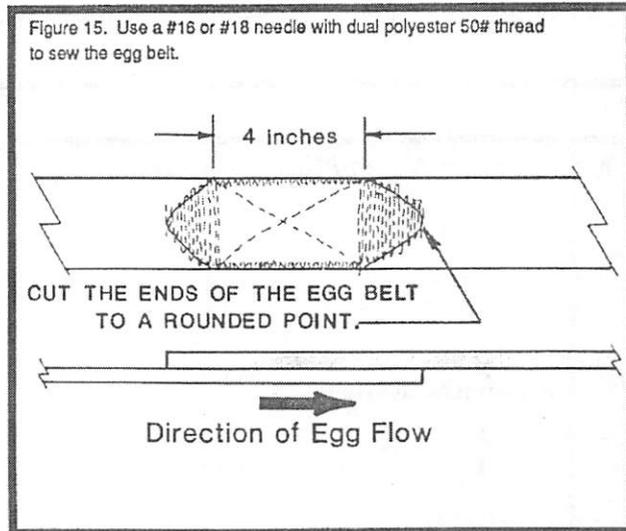

Figure 15. Use a #16 or #18 needle with dual polyester 50# thread to sew the egg belt.
- A. Trim the belt to a rounded point. See Figure 15.
- B. Overlap the ends of the belt 4" (100 mm) as shown in Figure 15. There must be 4" (100 mm) of FULL WIDTH BELT OVERLAP!